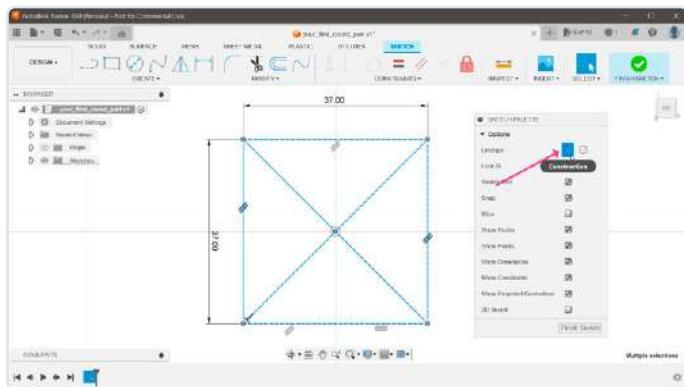

Figure 3: Changing lines definition into Construction mode.
3) We won't use this shape to extrude the enclosure since we need space around the PCB. It makes sense to select all the lines and turn those into construction lines by clicking the *Construction* button in the *Sketch Palette* dialog. This tells Fusion 360 that we use these only as helper lines (**Figure 3**).